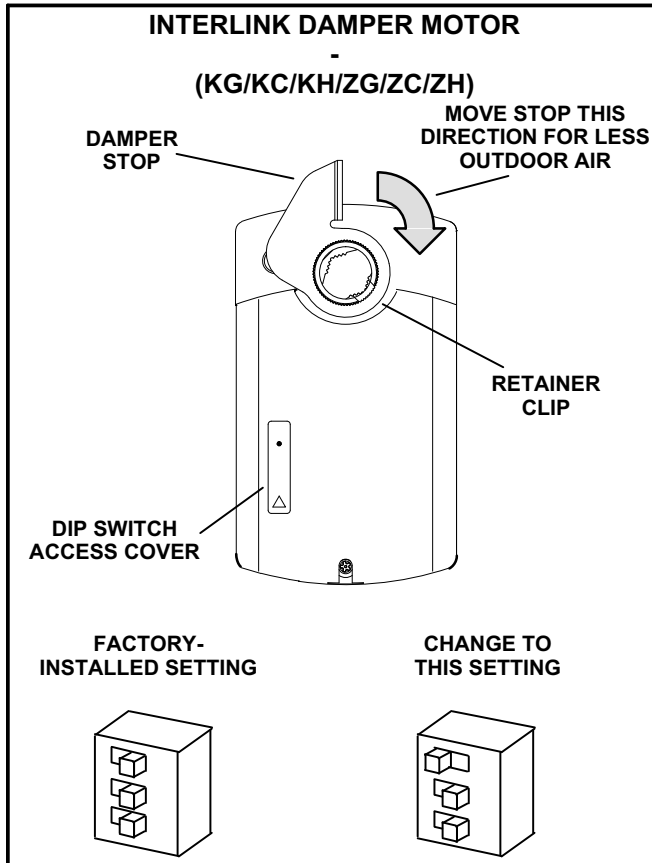

FIGURE 7
- 2- Open the damper motor DIP switch access cover and adjust the setting. See figure 7.